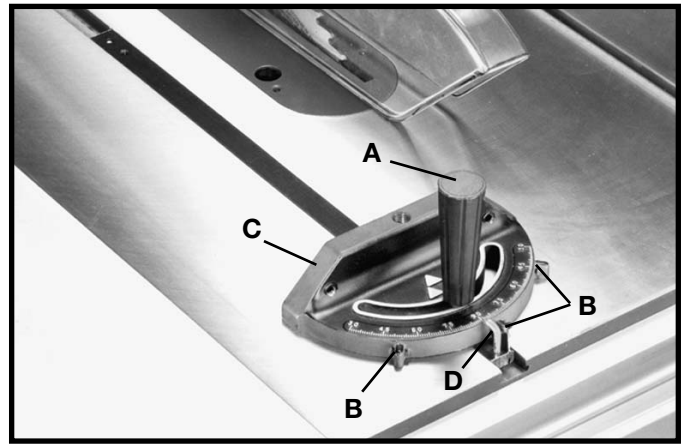

Fig. 122
The miter gage is equipped with adjustable index stops at 90 degrees and 45 degrees right and left. Adjustment to the index stops can be made by tightening or loosening the three adjusting screws (B) Fig. 122.
To rotate the miter gage, loosen lock knob (A) Fig. 122, and move the body of the miter gage (C), to the desired angle.
The miter gage body will stop at 90 degrees and 45 degrees both right and left. To rotate the miter gage body past these points, the stop link (D) Fig. 122, must be moved up and out of the way.